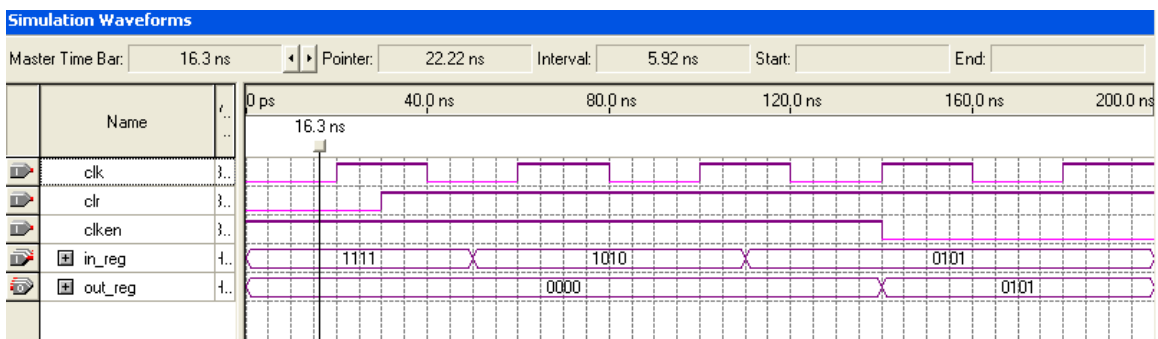

Figure 5-6.
6. Check to see if you get the same results shown in Figure 5-6.